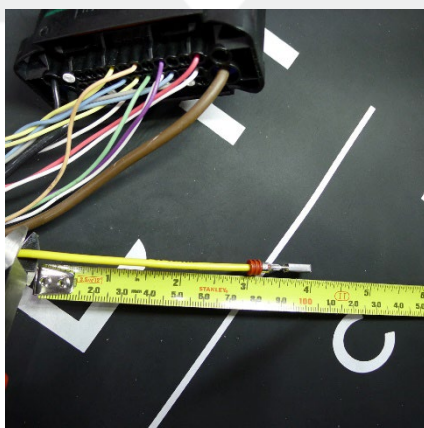

Figure 14
15. Cut the yellow power terminal wire 100 mm from the end (Figure 14), and then discard the end.